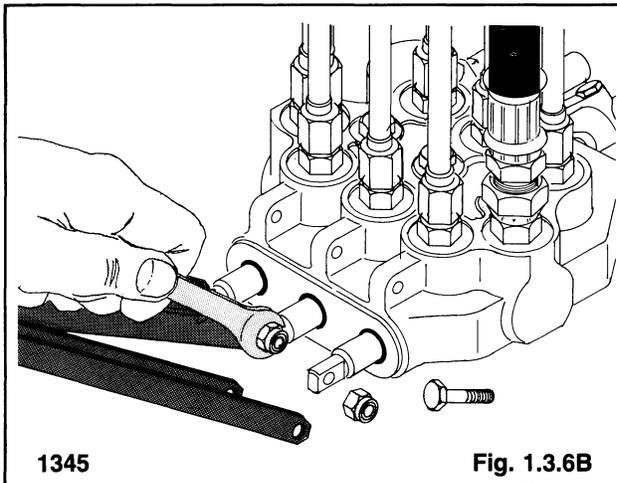

Fig. 1.3.6B
3. Disconnect the foot pedal linkage at the control valve spool (fig. 1.3.6b).